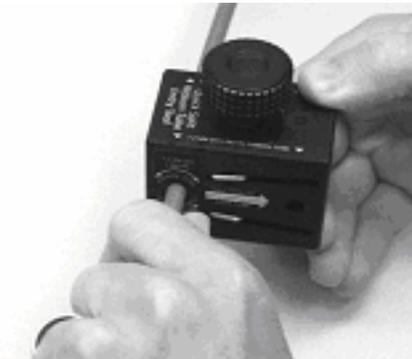

Figure 4 – Rotate the tool $\frac{1}{2}$ turn to ring cut the buffer tube.
6.5 Loosen the thumbscrew by turning it $\frac{1}{4}$ turn counter-clockwise and rotate the Quick Split RT tool $\frac{1}{2}$ turn around the ribbon buffer tube (Figure 4). After completing the ring cut, open the tool by rotating the handle counter-clockwise and remove the tool from the ribbon buffer tube. **Be careful not to nick the fibers when removing the tool from the buffer tube.**